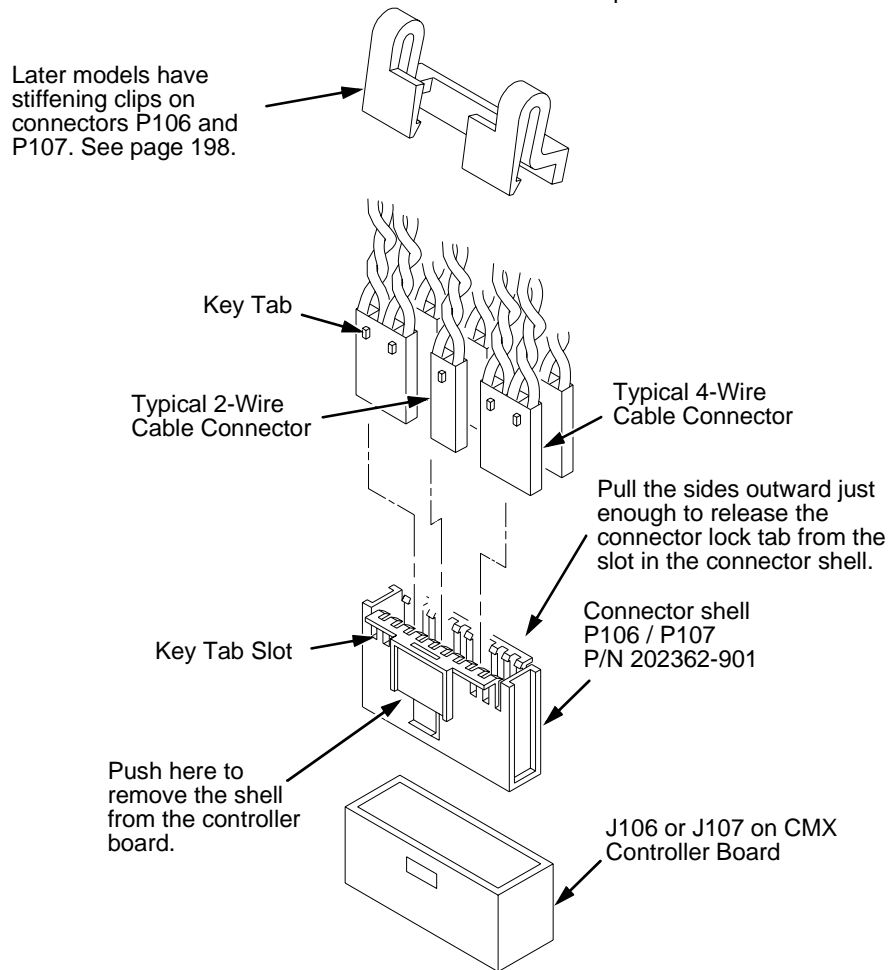

Figure 30. Cable Connector Shell, Disassembly/Assembly
5. Pull the side of the connector shell outward and gently pull the cable connector upward. (See Figure 30.) Notice that two-wire connectors are grouped across from two-wire connectors in a connector shell. Four-wire connectors are grouped across from four-wire connectors in a connector shell.
1. Position the cable connector in the connector shell. Two-wire connectors are always grouped across from two-wire connectors in a connector shell. Four-wire connectors are always grouped across from four-wire connectors in a connector shell. (See Figure 30.)